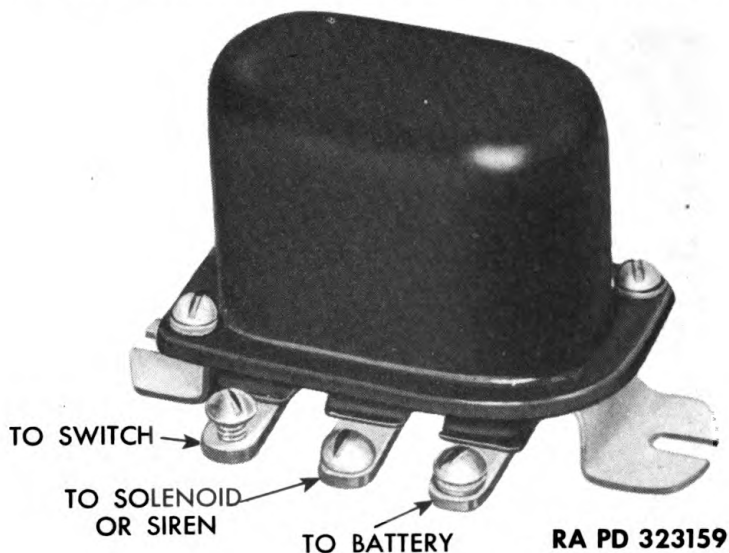

Figure 160 — Solenoid or Siren Relay
63. DESCRIPTION (figs. 160 and 161).